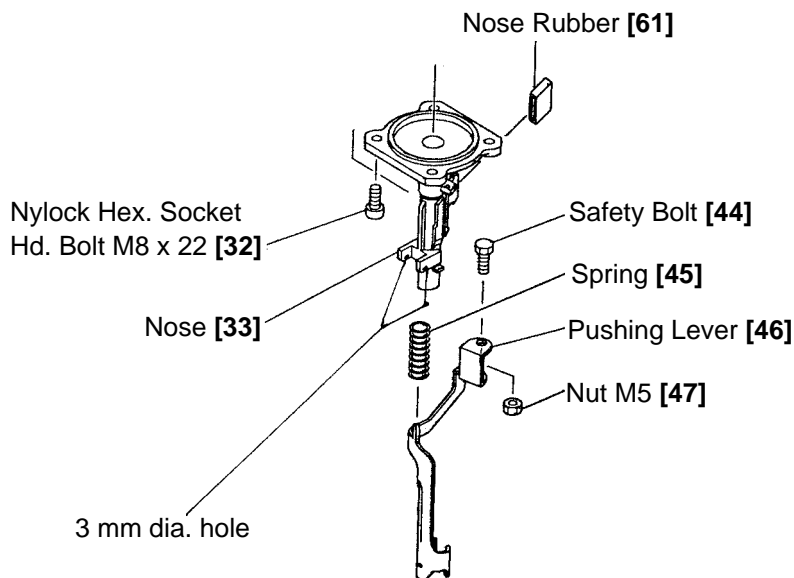

Fig. 18
(1) Nose [33], Pushing Lever [46] and the related parts (See Fig. 18.)